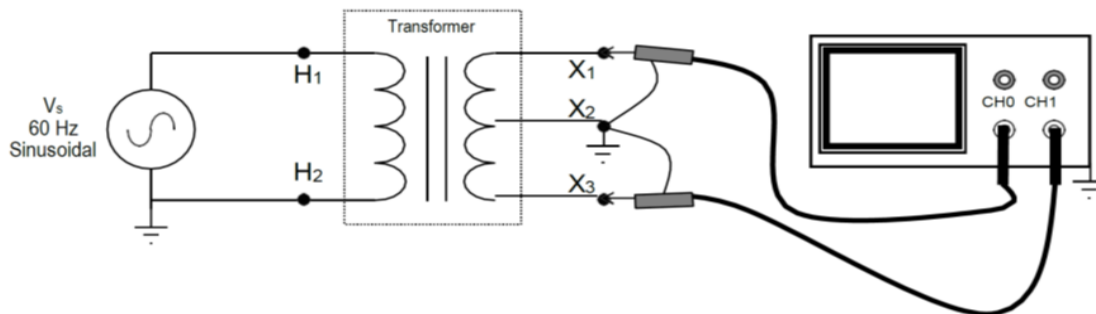

Figure 8.4: Testing Secondary Center Tap
1. Connect the oscilloscope across the transformer, as indicated in Figure 8.4: CHANNEL 1 across X1–X2; and CHANNEL 2 across X3–X2. In both cases, X2 **must** be connected to the scope's ground lead.